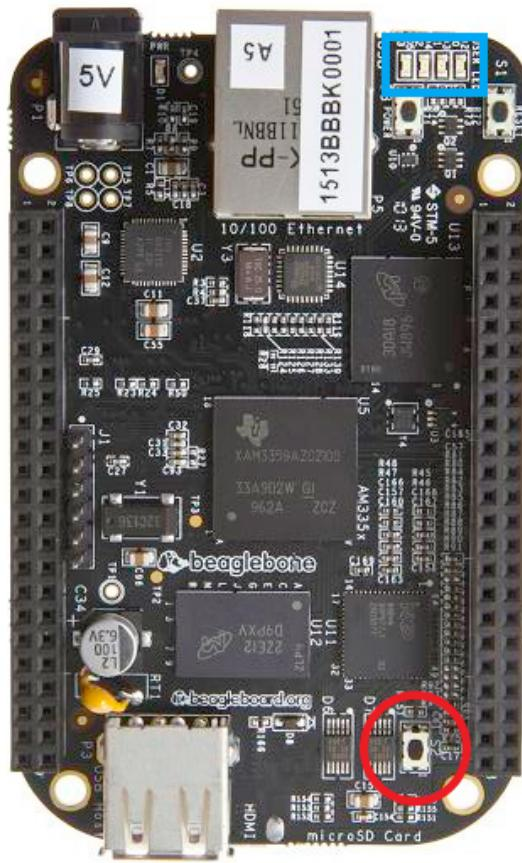

Figure 4.4: BeagleBone Format Button (Red Circle) and User LEDs (Blue Rectangle)
5. While holding down the button near the USB Port (Red Circle in Fig. 4.4), Power On the BeagleBone. Continue holding the button until all four of the User LEDs (Blue Rectangle in Fig. 4.4) turn on. Once all four are lit, release the button.